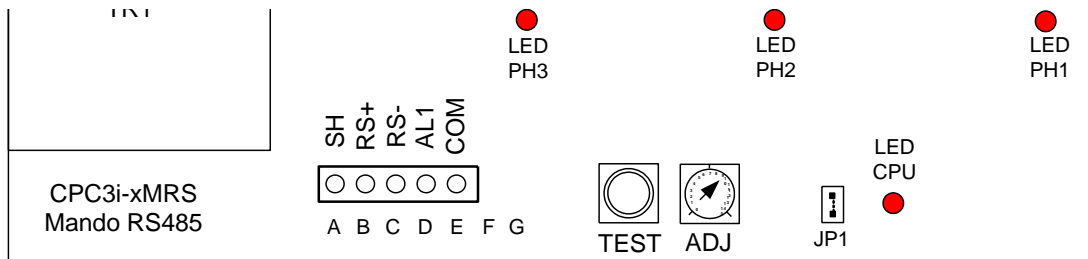

Fig. 121.- Terminals of the CPC3i-xRS card
- The connection of Computer plus TF to the card is carried out through channel RS-485, in accordance with the 13-1 connection table. See the terminal connection diagrams on Fig. 121 and 122.